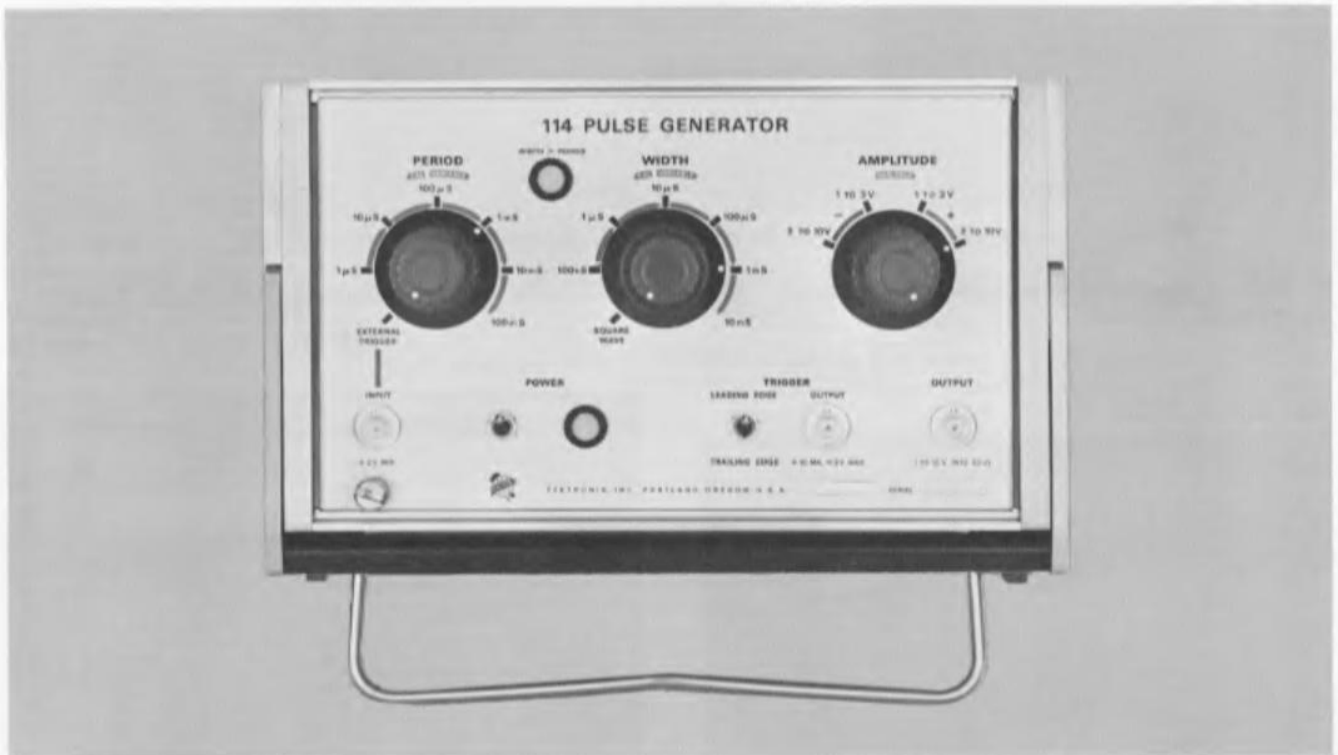
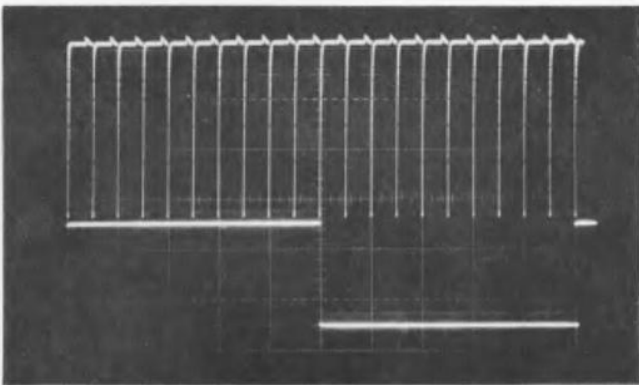

Fig. 4-11. Control settings for adjusting WIDTH CAL control R180.
Fig. 4-12. Crt display showing correct adjustment of WIDTH CAL control R180.
- Set the Type 547 TIME/CM (B) to .1 SEC.
- Set the Type 114 PERIOD and WIDTH controls to 1 mS and turn both VARIABLE controls to CAL (see Fig. 4-11).
- Set the Type 547 TIME/CM (B) to .2 mSEC and adjust the TRIGGERING LEVEL control for a stable display.
- Use the Type 1A1 POSITION controls to obtain the display shown in Fig. 4-12.
d. Set the Type 547 TIME/CM (B) to .2 mSEC, the TRIGGERING SLOPE switch to +, and adjust the TRIGGERING LEVEL control for a stable display.
e. Slowly rotate the WIDTH — VARIABLE control clockwise. Check for a pulse width of at least 1 millisecond (ten 100 microsecond markers) at the clockwise end of rotation (see Fig. 4-12).